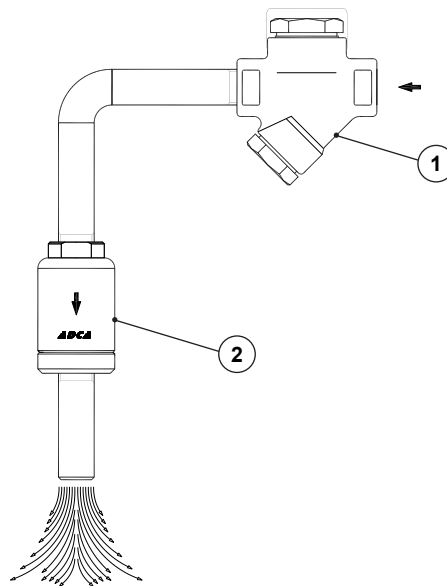

Fig. 1
- A typical installation is shown in Figure 1. The outlet of the noise diffuser should be directed to the ground or to another safe place.